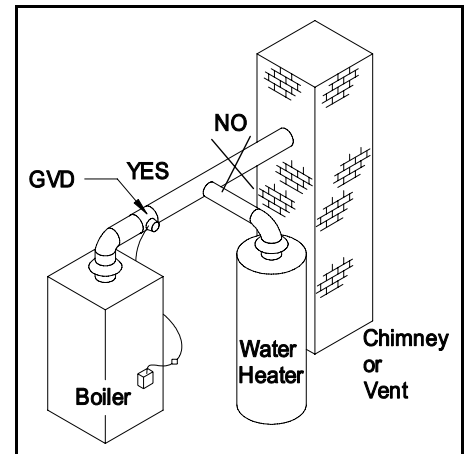

Figure 4
WARNING: *Install the automatic vent damper to service only the single appliance for which it is intended. See Figure 4. If improperly installed a hazardous condition such as an explosion or carbon monoxide poisoning could result.*
2. Locate a position in the vent pipe connector between the draft hood and chimney for the damper device. (See Figure 4)